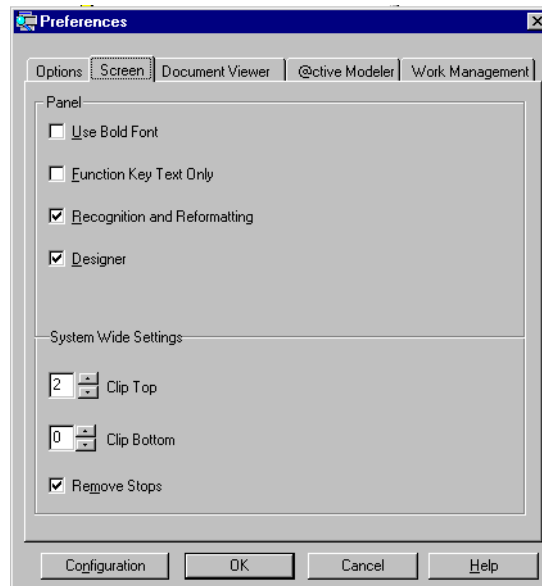

Figure 82. System 21 Explorer preference for Designer
- Set the preferences in the User desktop for System 21 Explorer as shown in Figure 82.